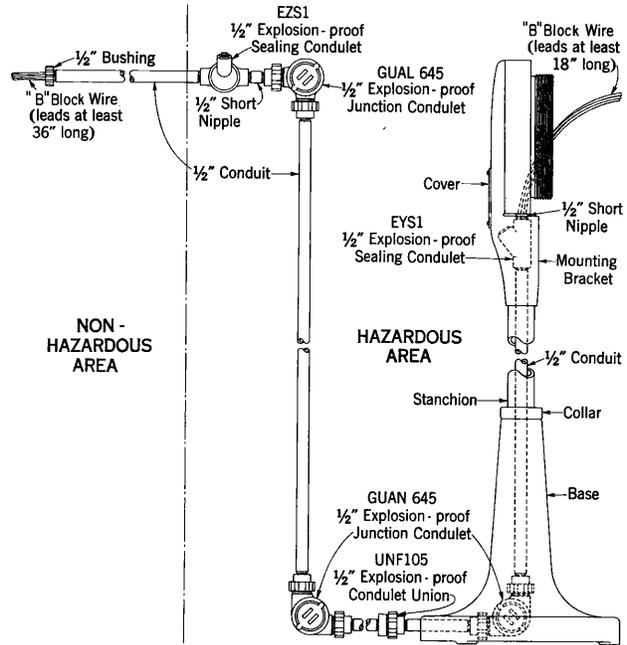

Fig. 3 — Desk Installation Using 5A Pedestal
2.06 The 320-type telephone set is designed for wall or pedestal mounting. The 166A back-board is used for wall installations. The 5A pedestal is used for desk installations (see Fig. 3).